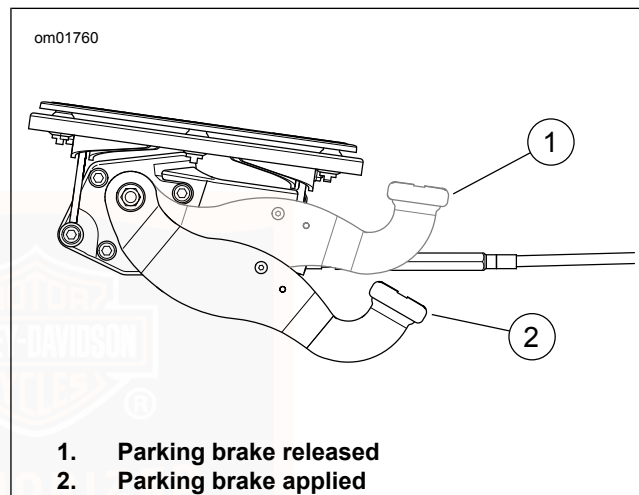

Figure 22. Parking Brake
See Figure 22. The parking brake pedal is on the left side of vehicle. The parking brake mechanically engages brakes for both rear wheels preventing the vehicle from rolling when parked. The parking brake indicator lamp turns on when the parking brake is applied.
4. See Figure 22. With the left foot, firmly push down the parking brake pedal until it cannot be pushed any further.
2. See Figure 22. With the left foot, firmly press the parking brake pedal and release. The parking brake returns to the released position.